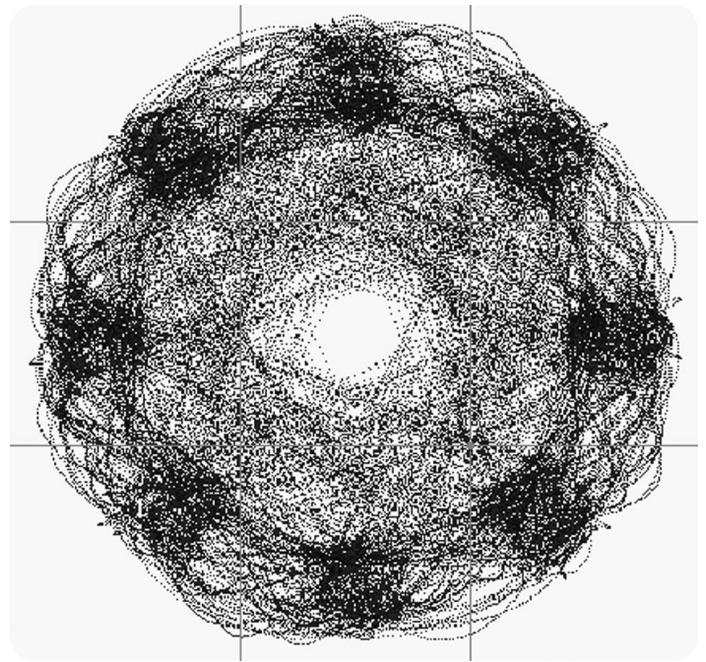

Figure 15. Quadrature modulation.
Quadrature Modulation. Today’s digital wireless communications networks are built on a foundation of quadrature (IQ) modulation technology. Two carriers — an in-phase (I) waveform and a quadrature-phase (Q) waveform that is delayed by exactly 90 degrees relative to the “I” waveform—are modulated to produce four states of information. The two carriers are combined and transmitted over one channel, then separated and demodulated at the receiving end. The IQ format delivers far more information than other forms of analog and digital modulation: it increases the effective bandwidth of the system. Figure 15 depicts quadrature modulation.